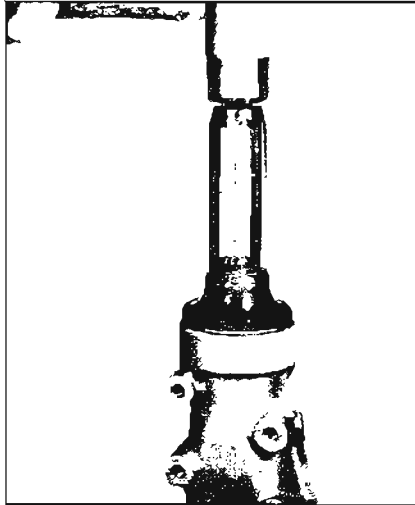

Figure 4-67—Installing Extension Oil Seal
18. Install new oil seal in rear bearing retainer, using Seal Installer J-8864. See Figure 4-67. Lightly coat seal with gear lubricant.